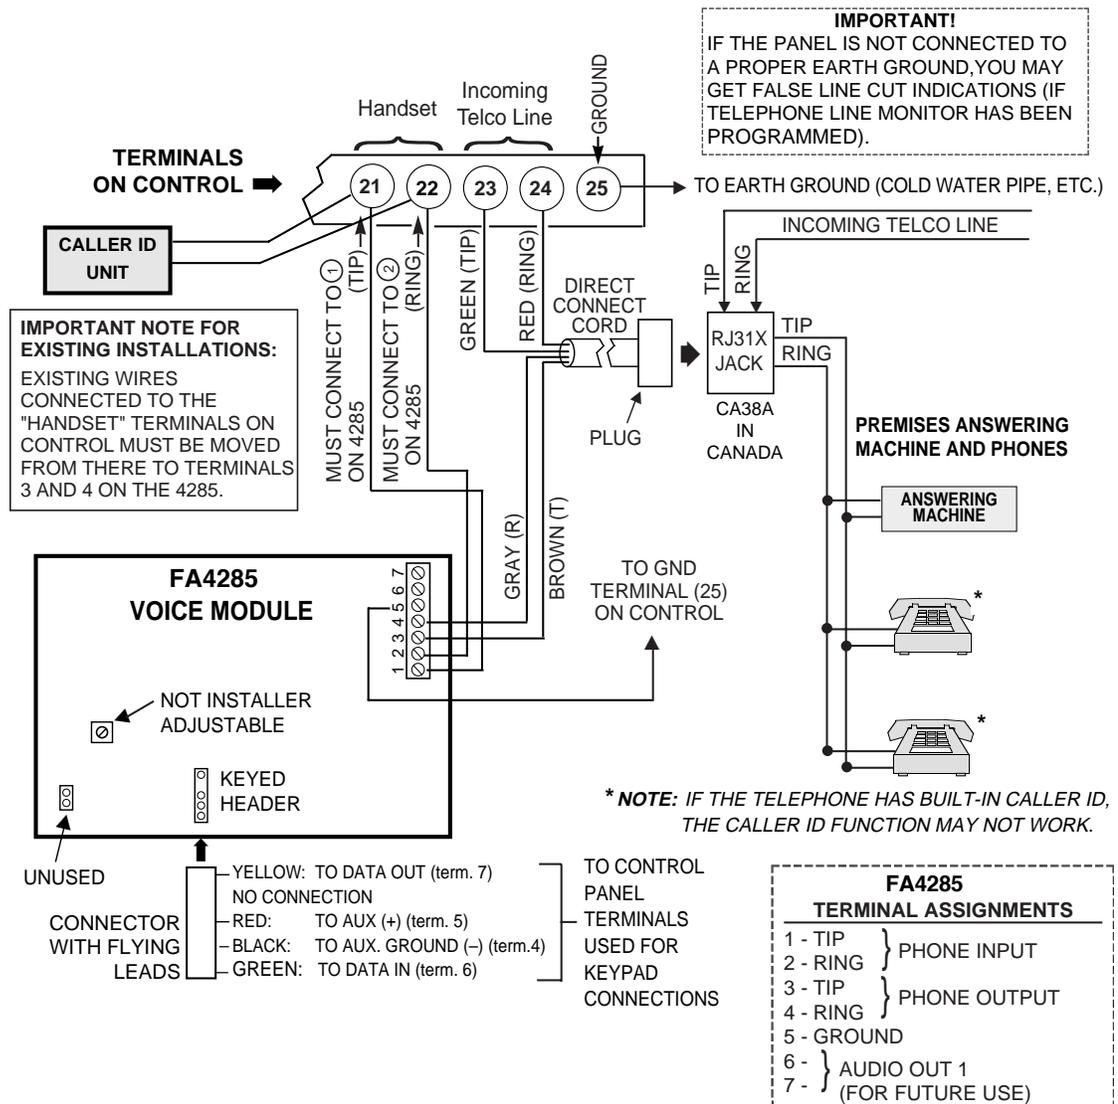

Figure 16. FA4285 Voice Module Wiring Connections
1. Make 12V (+) and (-) and data in and data out connections from the Voice Module to the control, using the connector cable supplied with the Voice Module (see Figure 16).